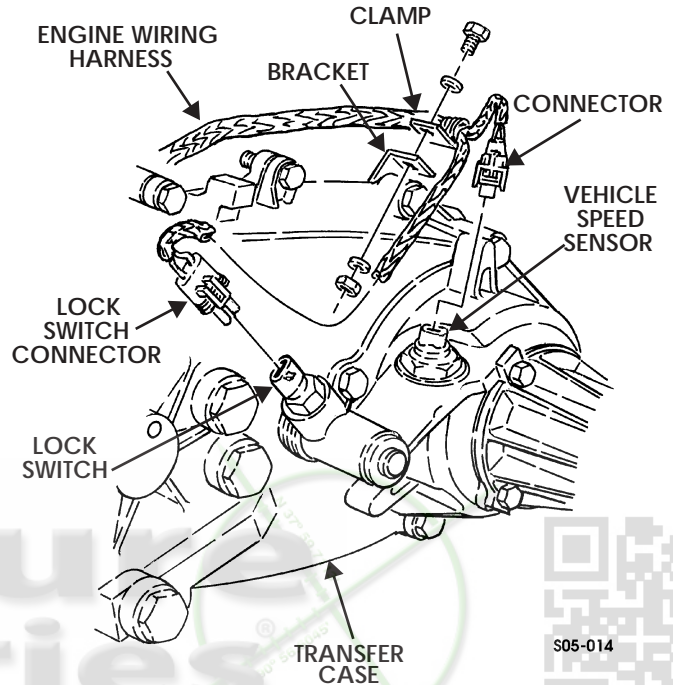

Figure 5-55: Vehicle Speed Sensor and Lock Switch Harness
12. Disconnect connector from vehicle speed sensor on transfer case (Figure 5-55).